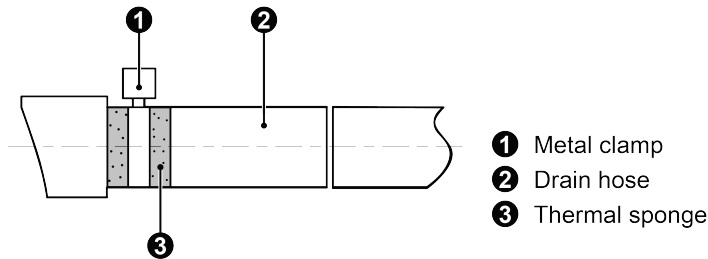
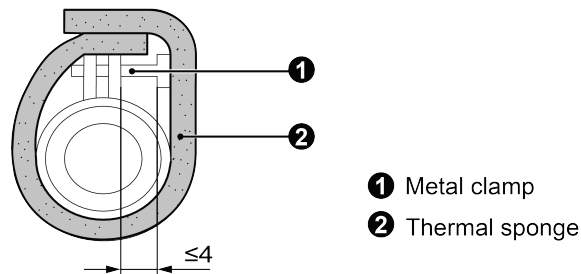

Fig 4.9
Fig 4.10
- (1) Insert the drain hose into the drain hole and tighten it with tapes, as shown in Fig 4.9
- (2) Tighten the pipe clamp, with the distance between screw nut and hose smaller than 4mm.
- ① metal clamp(accessory) ② drain hose(accessory) ③ Grey tape(accessory)
- (3) Use sealing plate to make the pipe clamp and hose insulated, as shown in Fig 4.10
- ① metal clamp(accessory) ② thermal sponge(accessory)